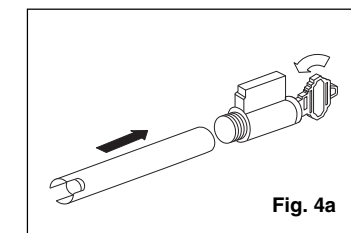
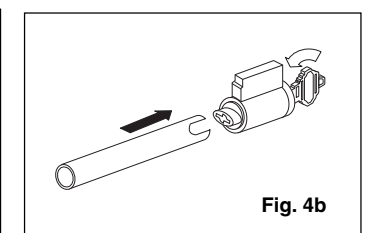

Fig. 4a
Fig. 4b
- If you have a cylinder plug with a round end, then use the non-slotted end of the plug follower (Fig 4a). If you have a cylinder plug with an oval end, use slotted end of plug follower. (Fig 4b) Then do the following: